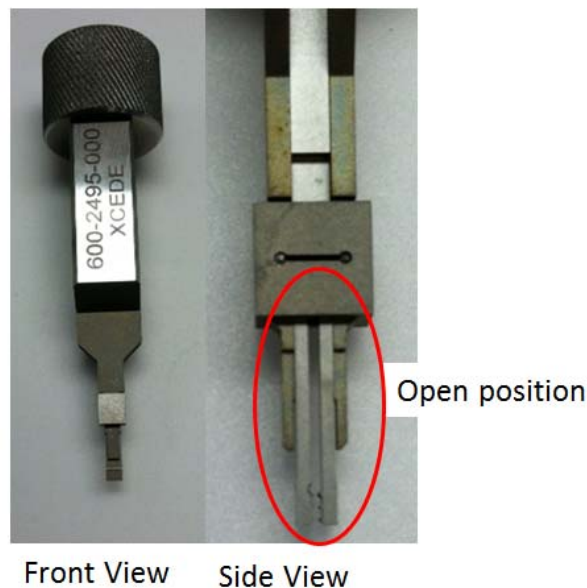

Figure 3. Dual Signal Removal tool in "Open" Position
- 5.1.3 Make sure dual signal removal tool is in the open position as shown below in Figure 3.